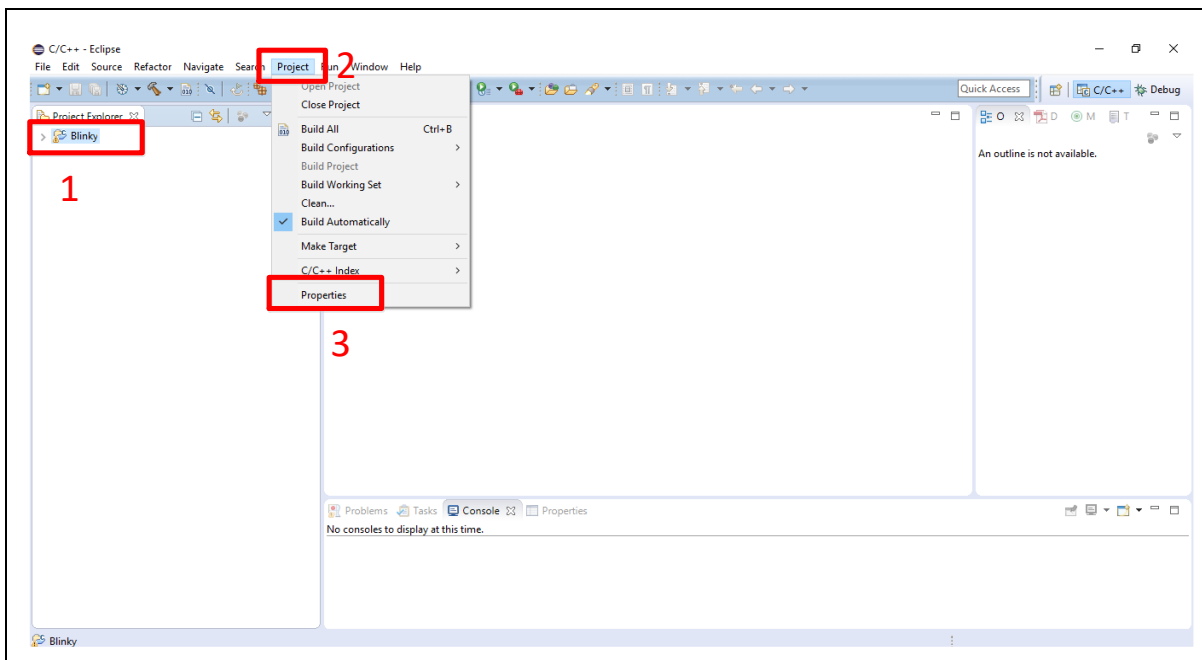

Figure 4-19 Build Project
3. Click the “Blinky” project and find the project properties as shown in Figure 4-19. Make sure the